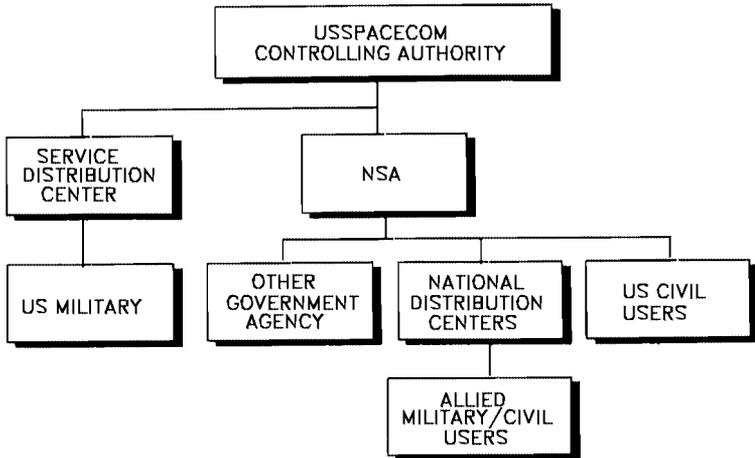

Figure A-2 Key Distribution Process.
A.3.5 GPS Key Distribution Process. Upon receipt of Controlling Authority notification, distribution centers issue keying material to appropriate designated crypto user accounts either by direct shipment, through a distribution center, or through a national distribution authority for foreign governmental users (see Figure A-2).